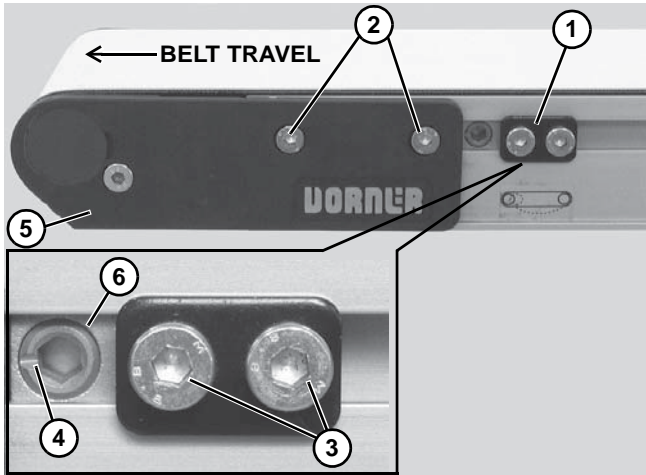

Figure 54
Non V-guided belt conveyors are equipped with belt tracking cam assemblies (**Figure 54, item 1**) for belt tracking adjustment.
1. Ensure head plate fastening screws (**Figure 54, item 2**) on both sides of conveyor are tightened.
2. On both sides of conveyor, loosen two (2) cam fastening screws (**Figure 54, item 3**). Adjust cams (**Figure 54, item 4**) until indicator slots (**Figure 54, item 5**) are horizontal and facing end of conveyor. Then slide cam assemblies against head plates (**Figure 54, item 6**) and re-tighten cam fastening screws (**Figure 54, item 3**) to 60 in-lb (7 Nm).
3. On the side toward which the belt is tracking, loosen head plate fastening screws (**Figure 54, item 2**).
4. With the conveyor running, use a 5 mm hex-key wrench to rotate the tracking cam (**Figure 54, item 4**) in small increments until the belt tracks in the center of the conveyor. Then while holding the cam in position, re-tighten the head plate fastening screws (**Figure 54, item 2**) with a 4 mm hex-key wrench to 60 in-lb (7 Nm).